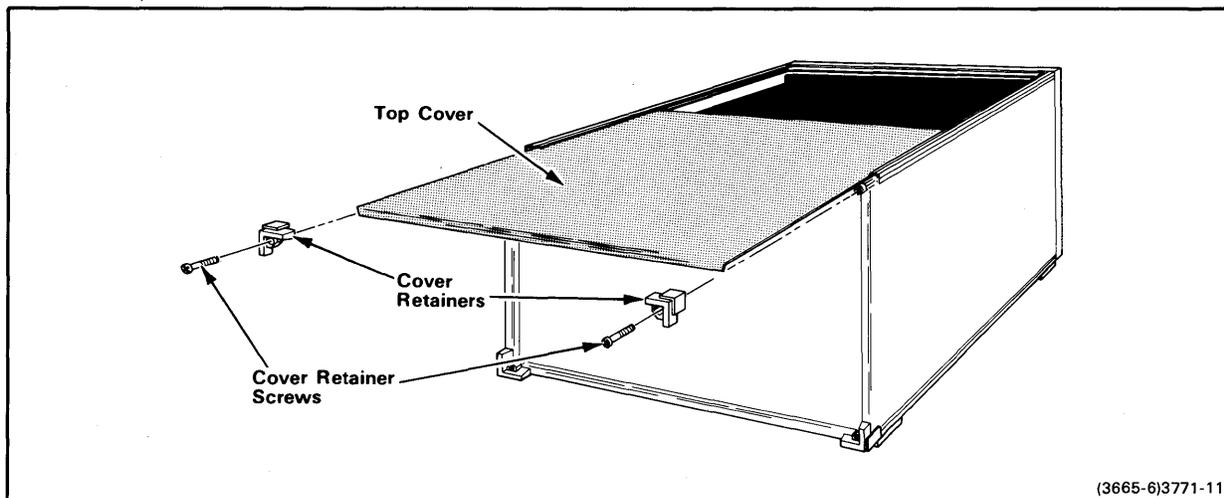

Fig. 3-1. Removal/installation of top cover.
2. Remove the cover retainers at the upper corners on the rear of the mainframe (Fig. 3-1).
20. Install the cover retainers at the upper corners on the rear of the mainframe (see Fig. 3-1). Tighten the cover retainer screws securely.